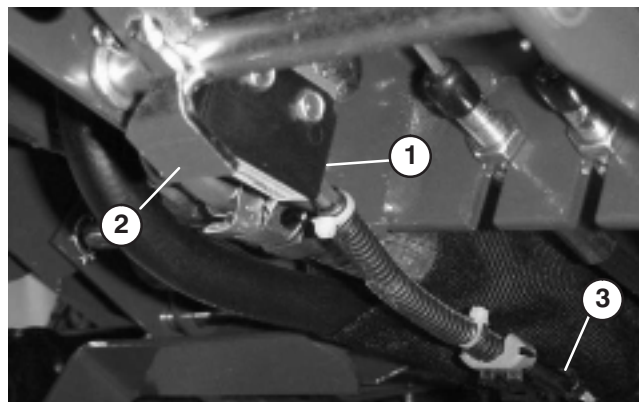

Figure 53
1. Gap between parking brake shaft pivot paddle and bottom of interlock switch (Fig. 53) should be approximately 1/16" (Paddle must not contact switch).